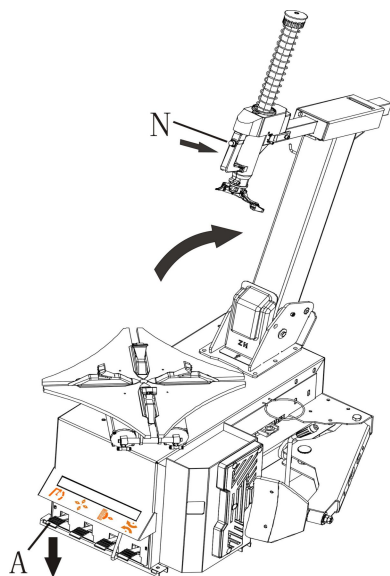
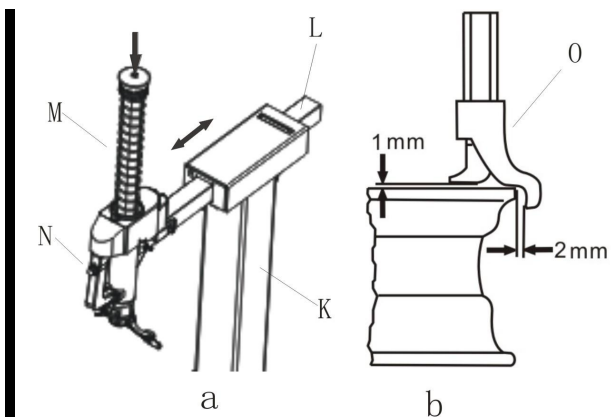

Fig. 18
Fig. 21
- Press switch handle button N (Fig. 18), fix arm.
- Press pedal A (Fig.18), let column back to its working position, pull back switch handle N (Fig. 21-a), let the arm L and hex column M move freely. Push N and press M, make mounting head O against rim (Fig. 21-b), press switch handle N lock arm and hex column. Make sure mounting head keep a distance of 1~2mm from upper edge of rim and 2mm from outer edge of rim to avoid mounting head scratch rim